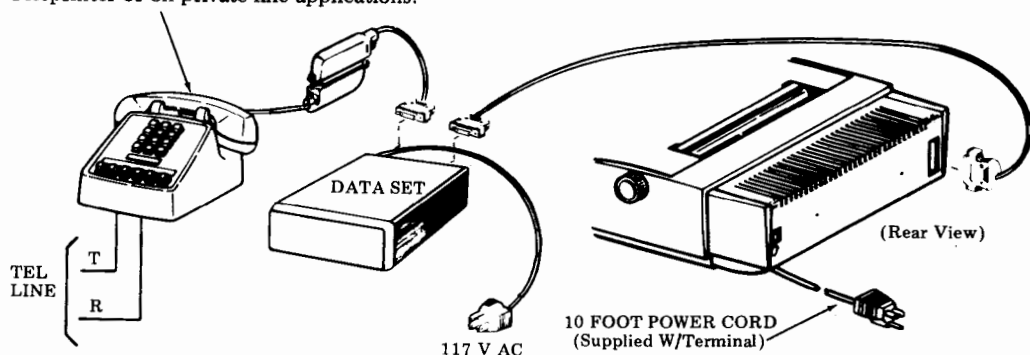

Fig. 5—Data Set Connection (Sets W/TAU)
- 3.13 The connection to the data set and telephone (if required) should be made following the instructions for the particular data set involved (Fig. 5).